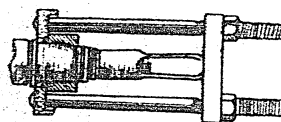

Fig. 31
Note. If the size exceeds 15—18 mm, loosen the nut fastening the cam, and fit the cam to the proper position by means of a special tool (Fig. 31).
- a) the pointer indicates a figure less than "17", then dismantle the fuel pump from the drive, loosen the nut, shift the cam to the left, using a special tool (Fig. 31), and tighten the nut;